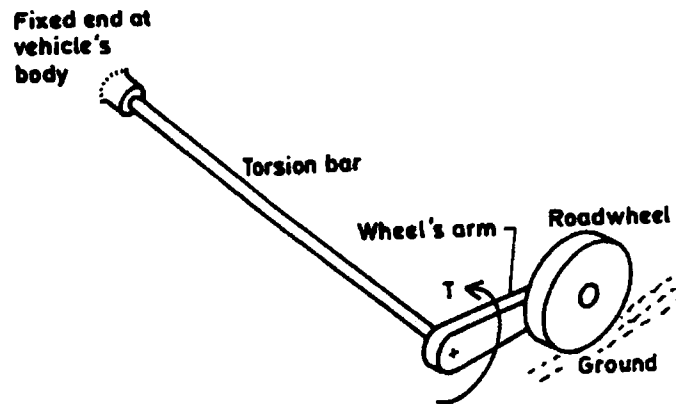

FIGURE Q4
- Q4** A torsional bar of diameter 25 mm as shown in **Figure Q4** is to be used in the suspension system of next Proton model. The modulus of rigidity of bar's material is 70 GPa and the allowable shearing stress is 240 MPa.